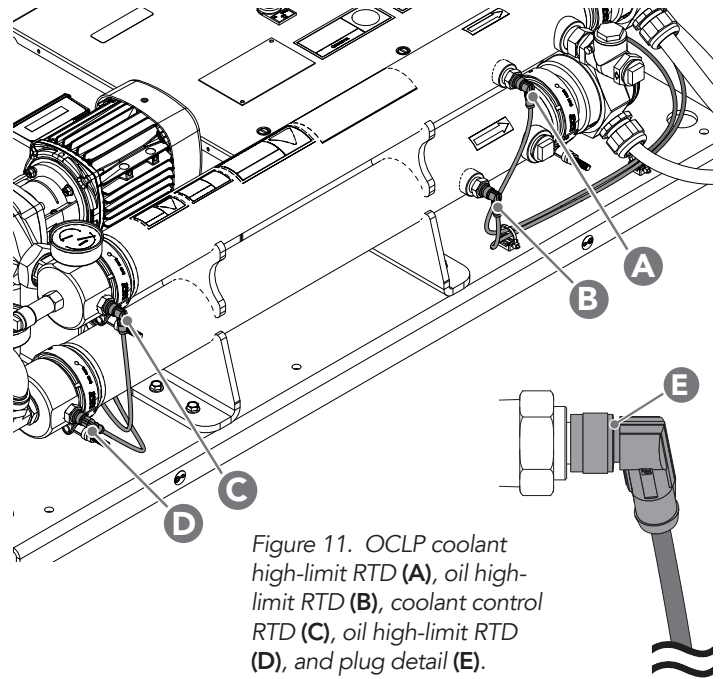
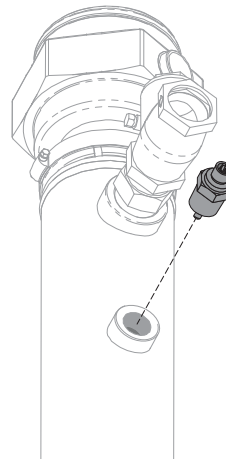

Figure 11. OCLP coolant high-limit RTD (A), oil high-limit RTD (B), coolant control RTD (C), oil high-limit RTD (D), and plug detail (E).
Figure 12. High-limit RTD plug shown removed from OCLP heating tank.
- If there **is no continuity** between TCR terminals **T2** and **T3**, locate connected RTD on the heating tank. Unscrew the RTD plug from RTD. See Table 1 and Figure 11, Figure 12 on the following page.
2. Close isolation valves. Drain fluid from the heating tank (see **SECTION 4.2.4**). Locate the RTD that requires replacement. See *Figure 11*.
3. Unscrew RTD plug. Remove plug. See *Figure 12*.
4. Unscrew RTD from tank. See *Figure 12*.